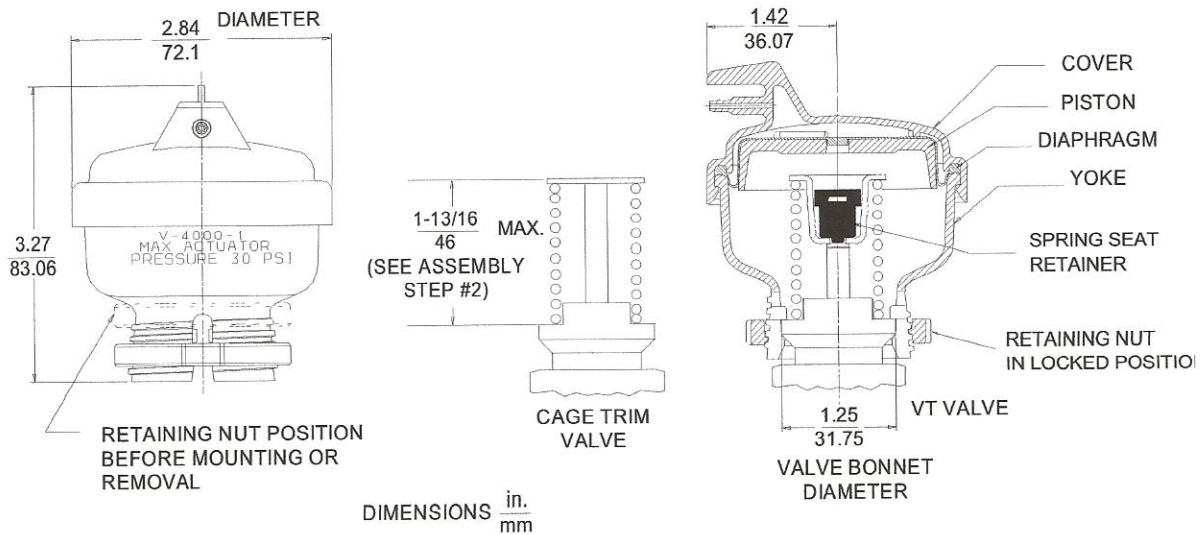

Figure 5: Small Pneumatic Actuator Dimensions
1. Before mounting the actuator to the valve, locate the retaining nut in the full up position, completely disengaged from the yoke threads (Figure 5).
- If the actuator is to be assembled to a VT valve, insure that the plastic spring seat retainer is in place (Figure 5). Use the retainer furnished with the actuator if there is no retainer in the valve. Insert the retainer so that the projection at the bottom of the retainer snaps into the keyway at the bottom of the spring seat. When properly inserted, the top of the retainer will be below the top of the spring seat.
- If the actuator is being mounted on a cage trim valve, check the spring gauge height before mounting the actuator. This measurement cannot exceed 1-13/16 inches (46 mm) as shown in Figure 5. If the gauge height is greater than 1-13/16 inches (46 mm), adjust it to this value.